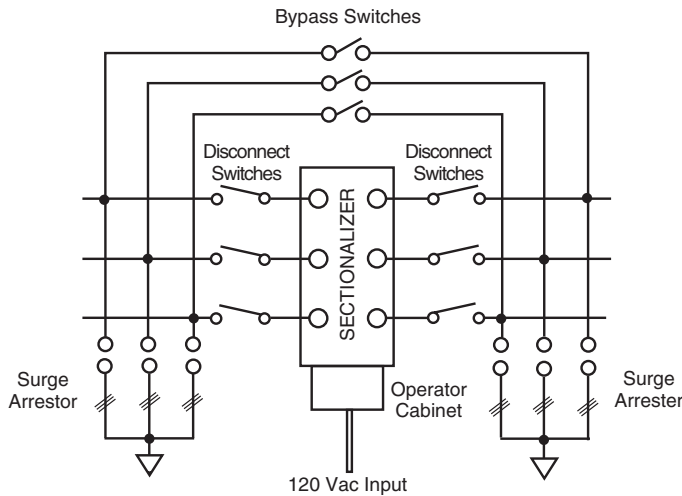

Figure 5.
1. Close all three bypass switches (see Figure 5).
3. Open the source and load disconnect switches (see Figure 5).